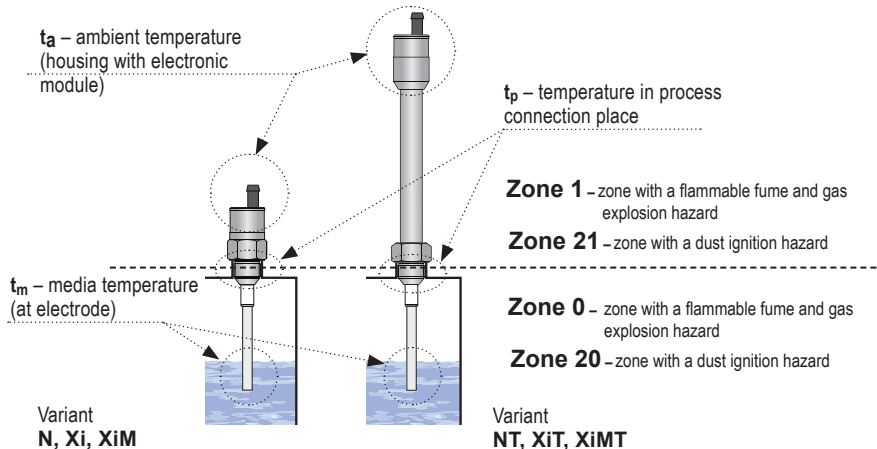

Fig. 20: Illustration of areas for temperature measurement and explosive zones
DLS-27Xd (10, 20, 30, 40)	Performance is protected by "Ex t" lock with intrinsically safe electrical circuit „ia" for hazardous areas (flammable dust areas) Ⓜ II 1/2 D Ex ia/tb [ja] IIIC T78°C Da/Db, electrode part zone 20, housing with electronics zone 21 see Fig. 20. The type 20 has electrode coating from electrostatically conductive PTFE Ex.
DLS-27XiT (10, 20, 30, 40)	Intrinsically safe high-temperature explosion-proof performance for use in hazardous areas (explosive gas atmospheres or explosive atmospheres with dust) Ⓜ II 1/2 G Ex ia IIB T6 Ga/Gb; Ⓜ II 1/2 D Ex ia IIIC T76°C Da/Db with intrinsically safe supply units, electrode part zone 0 and 20, housing zone 1 and 21, see Fig. 20. The type 20 has electrode coating from electrostatically conductive PTFE Ex.
DLS-27XiT (11, 21, 22, 31)	Intrinsically safe high-temperature explosion-proof performance for use in hazardous areas (explosive gas atmospheres) Ⓜ II 1/2 G Ex ia IIB T6 Ga/Gb with intrinsically safe supply units, electrode part zone 0, housing zone 1 see Fig. 20.
1) The here-mentioned temperatures are visually explain in Fig. 20.